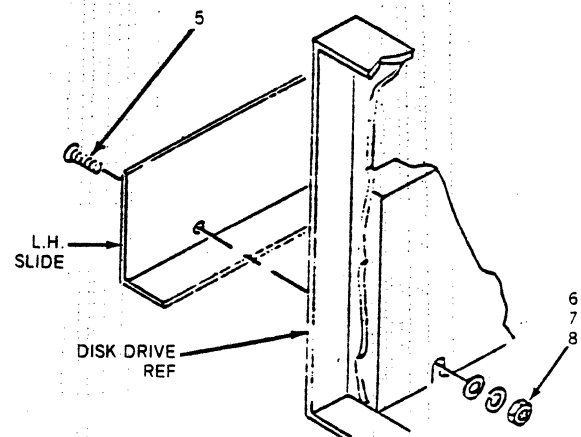

Figure 7-3. Enclosure Mounting
4. Place left slide (1) front mounting bracket between the RETMA Rail and the NUT BAR (4).
5. Tighten mounting screws (9) (use two).
6. Push rear mounting bracket up against rear RETMA Rail and secure using screws (9) and NUT BAR (4).
8. Mount the right slide (2) in the same manner, insuring that both slides are at the same height.
13. Screw enclosure (both front corners) to slides. See Figure 7-3.